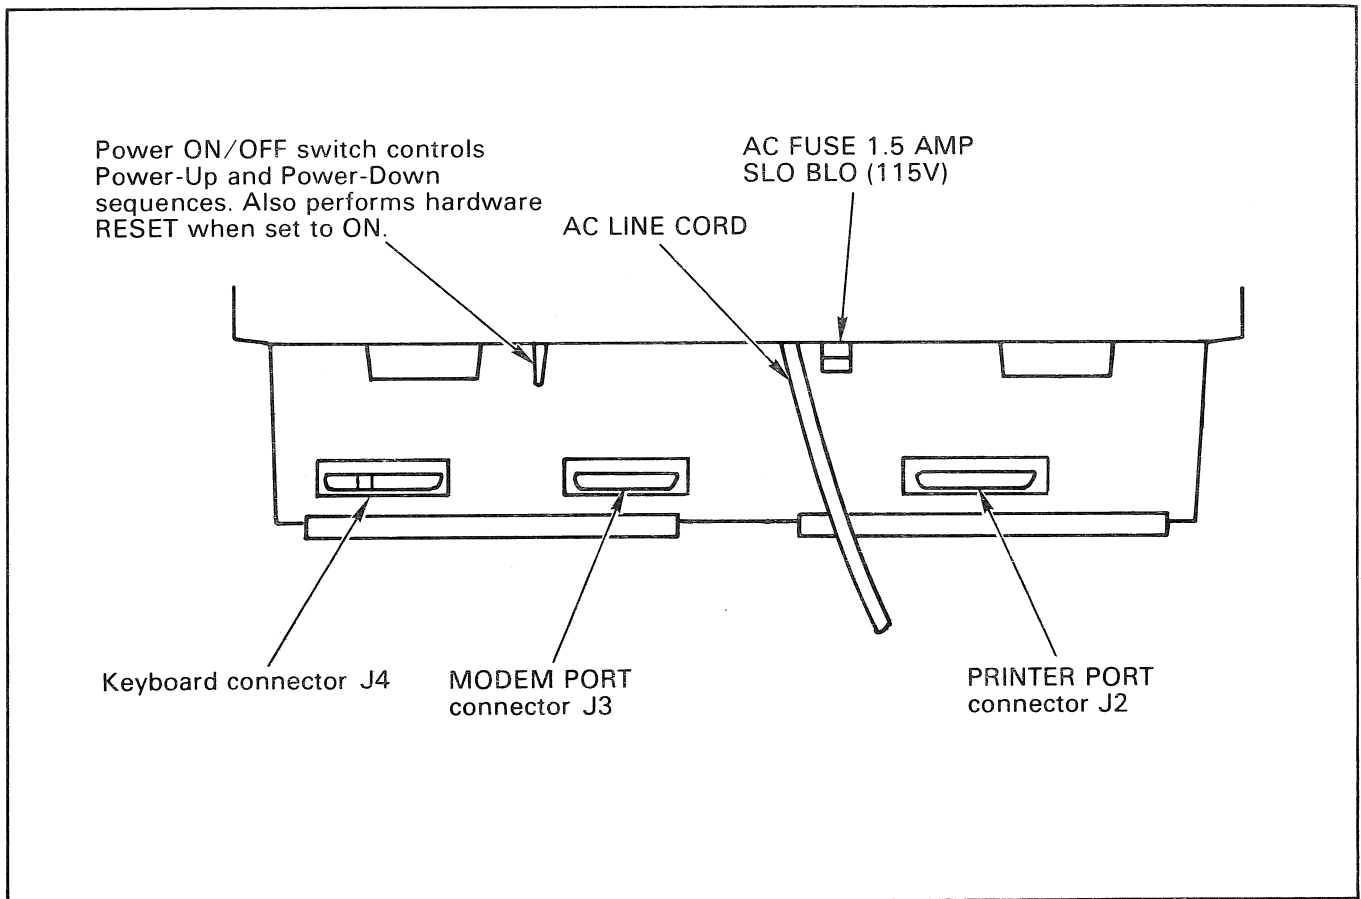

Figure 2-7. ADM 36 Panel Controls
application, while **figure 2-7** shows the rear panel location of the interface connectors.
1. Check the ON/OFF switch (figure 2-7) to ensure that it is set to OFF.
1. Set the ON/OFF switch to ON. (See figure 2-7.)
Refer to figure 2-7 and proceed as follows: